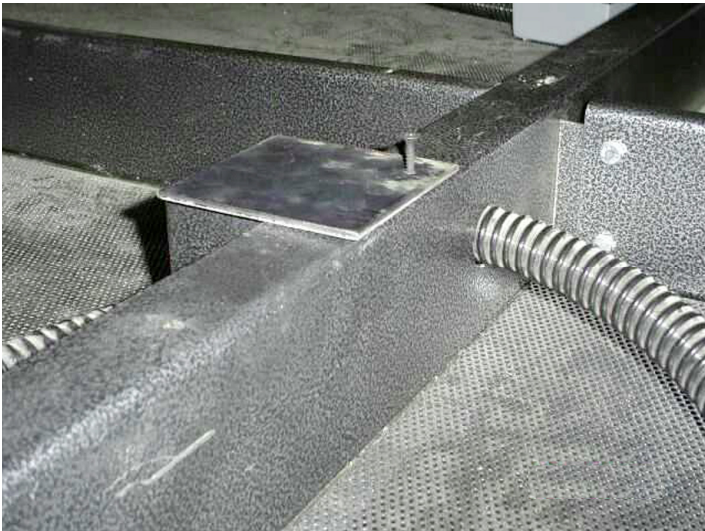

Figure 40
14. Arrange all cables inside the metal post (Figure 40).